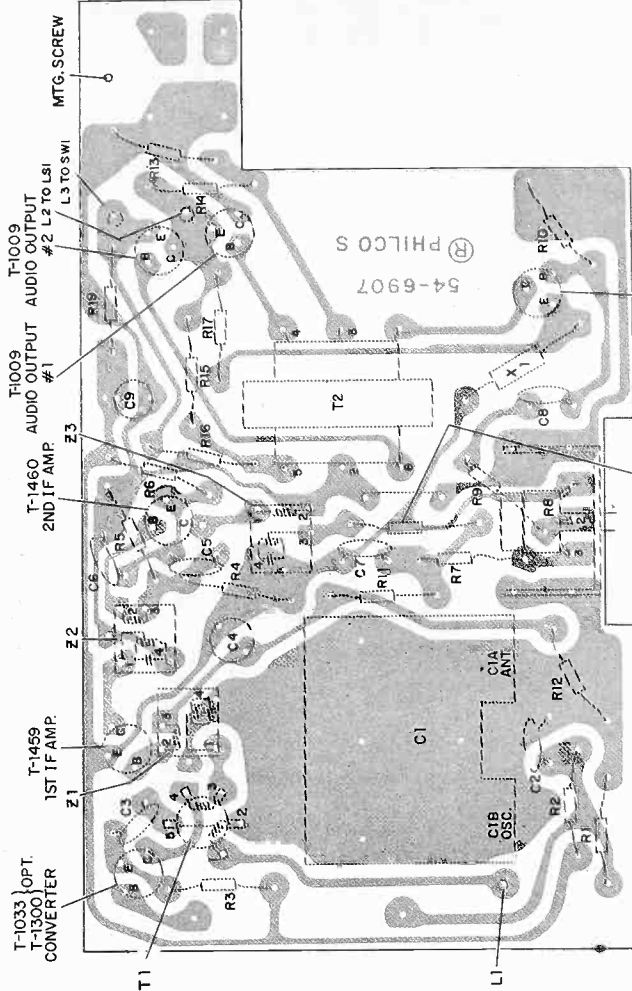

Figure 2 — Component Panel Bottom View — Showing Parts Location
2. Remove panel mounting screw indicated on figure 2.